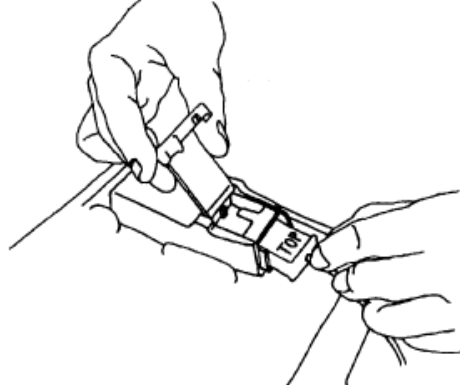

Figure 20-3: Placing the optical connector into the optical module
5. Place the optical connector into the optical module with the word TOP facing up. Close the module (refer to *Figure 20-3*).